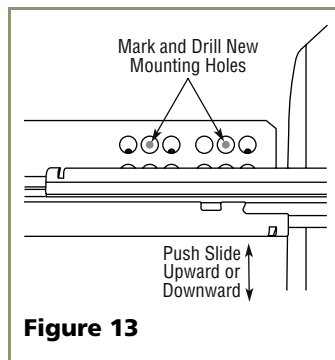

Figure 13
3. Mark new drilling holes using different sets of mounting holes on the slide. See **Figure 13**.